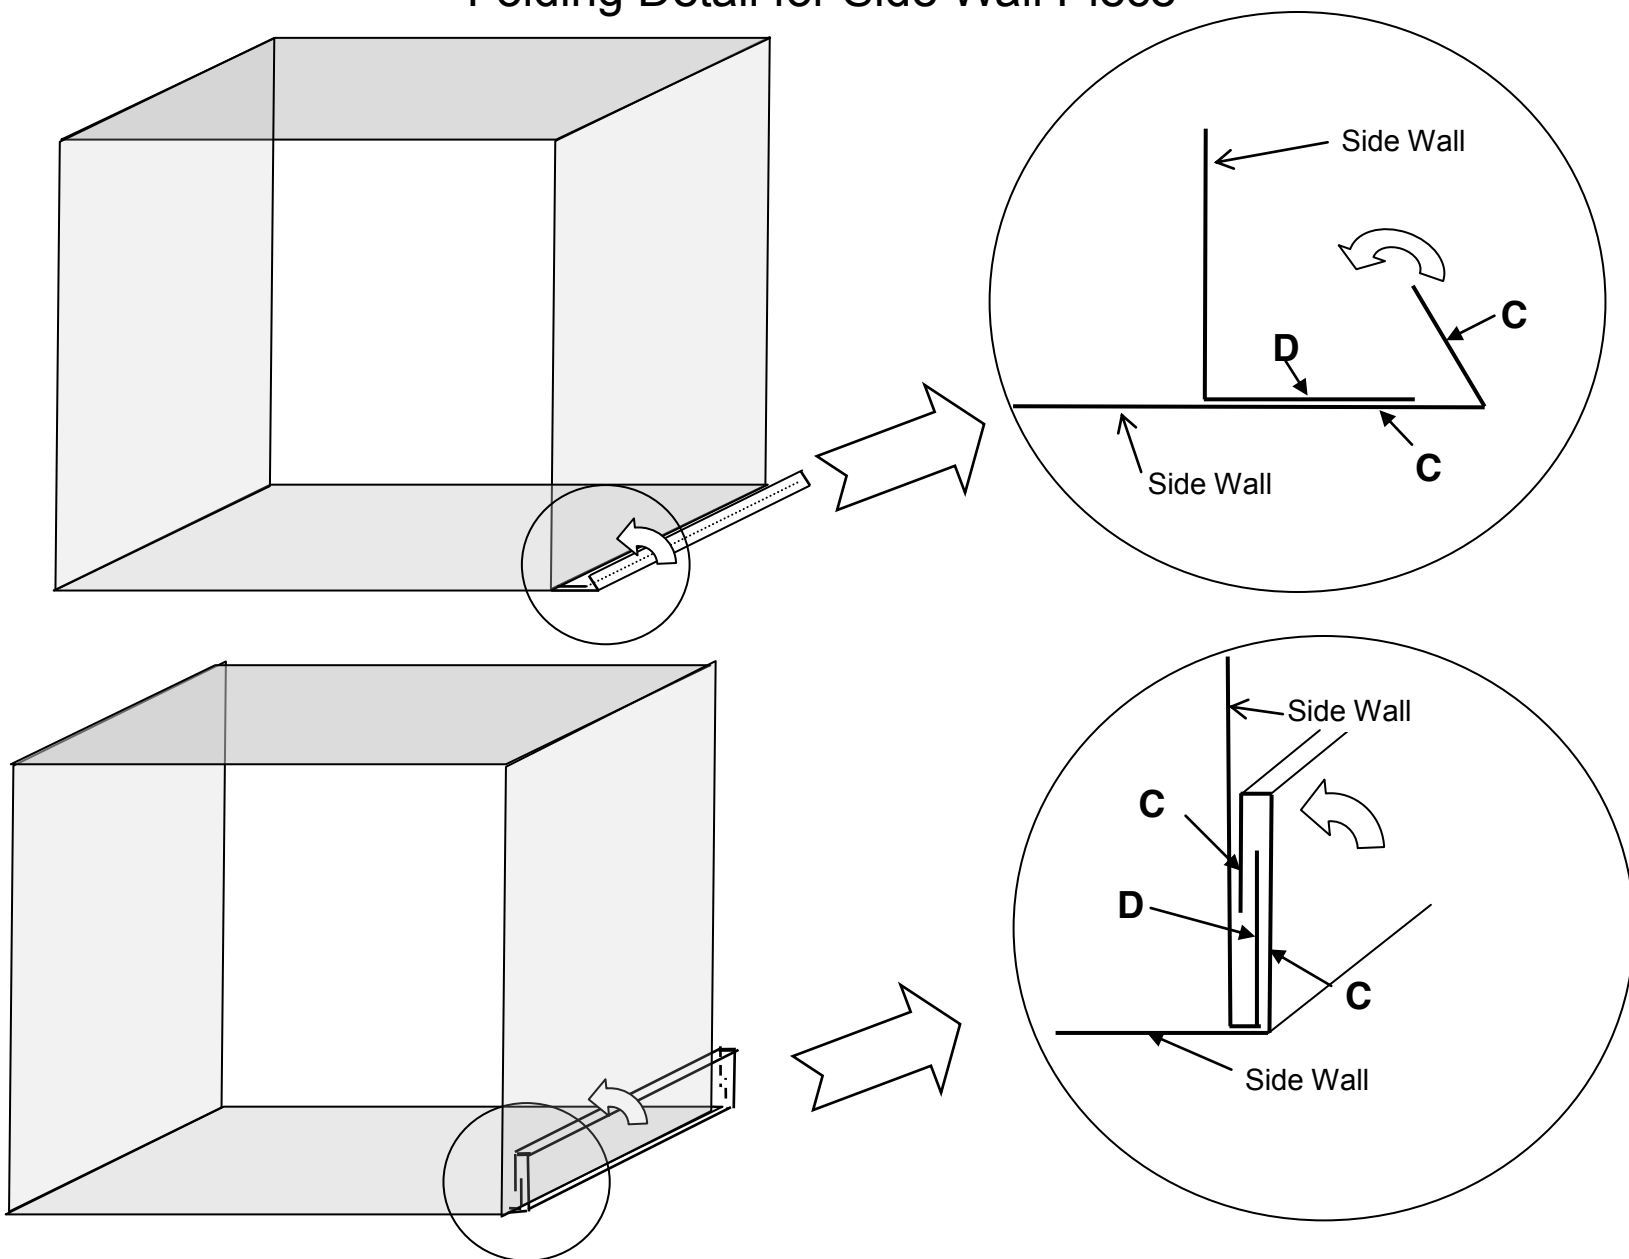

Figure 6
- iii. Figure 6 & 7: Bottom piece